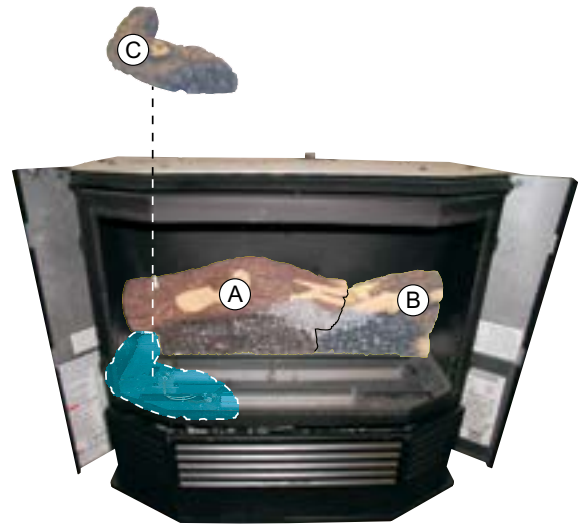

Figure 58
5. Place the Front Left Log (C) into the front left corner of the firebox, and position into the notch on the bottom left of Log (A). See Figure 58.